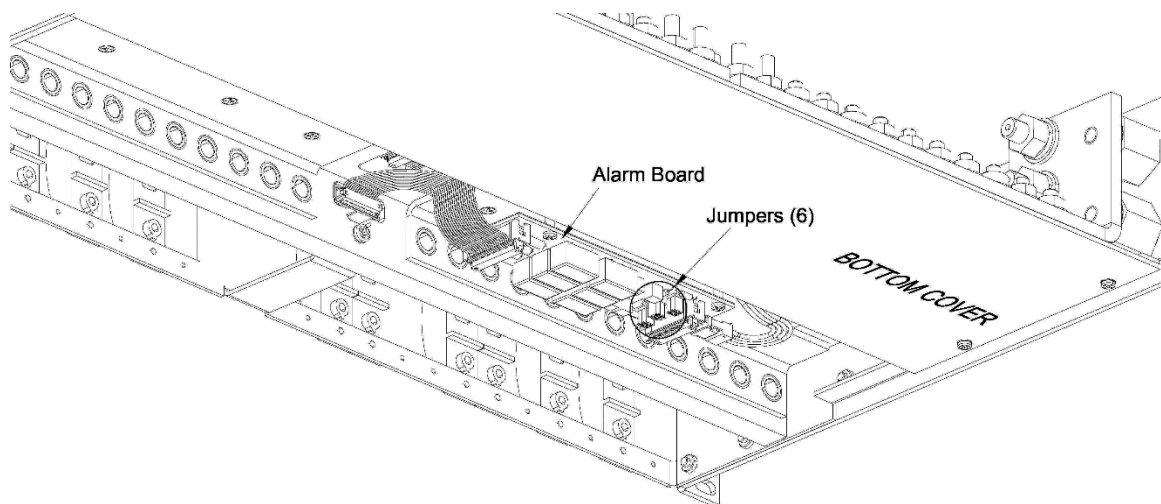

Fig. 3: Alarm board location
- Turn over the load center and check the jumper settings on the alarm board located on the underside of the chassis. Refer to Fig. 3 and 4. The jumpers are set up for REC-4 (non-mid-trip) circuit breakers and fuses. If you plan to use RLS-4 mid-trip circuit breakers, change the jumper setting as indicated.